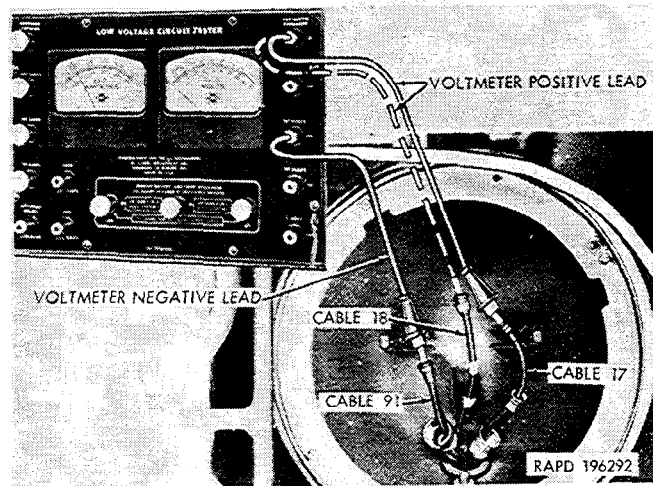

Figure 2-39. Checking for current to headlight.
(1) *Lamp units faulty.* Check for current to the lamp units, using the low voltage circuit tester (fig. 2-39). Circuits to both headlights are checked in the same manner.
(2) Check headlight ground circuit resistance
(a) To check resistance in the headlight ground circuit, attach the clip end of the voltmeter positive (+) test lead to the exposed terminal (see (1) (b) above) of cable (91 in fig. 2-39). Connect the voltmeter negative (—) test lead to the frame side rail. Scrape paint from the metal to insure a good connection. Connect the negative (—) test lead to the 1 VOLT terminal of the tester, turn the